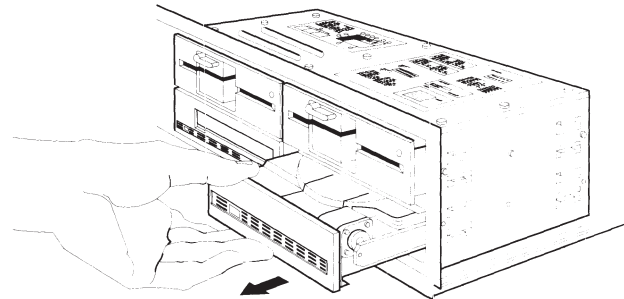

Figure 7-41. Removing a Mass Storage Device from Position B and C.
4. Slide the mass storage device out of the drive position (Figure 7-41).